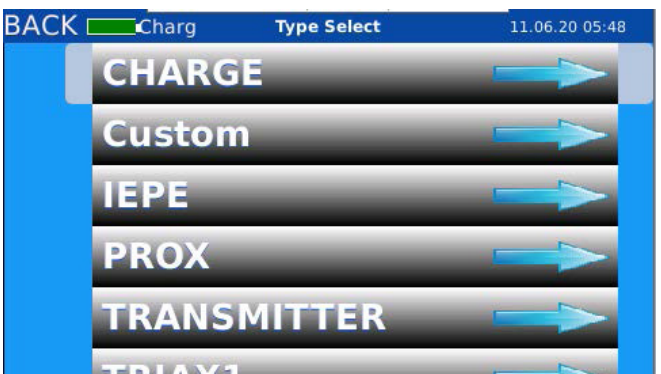

Figure 14. Select sensor type
- 2. Select the type of transducer you want to test by turning the frequency (right) knob and pressing it to select **OR** by tapping the transducer type on the touchscreen (Figure 14).